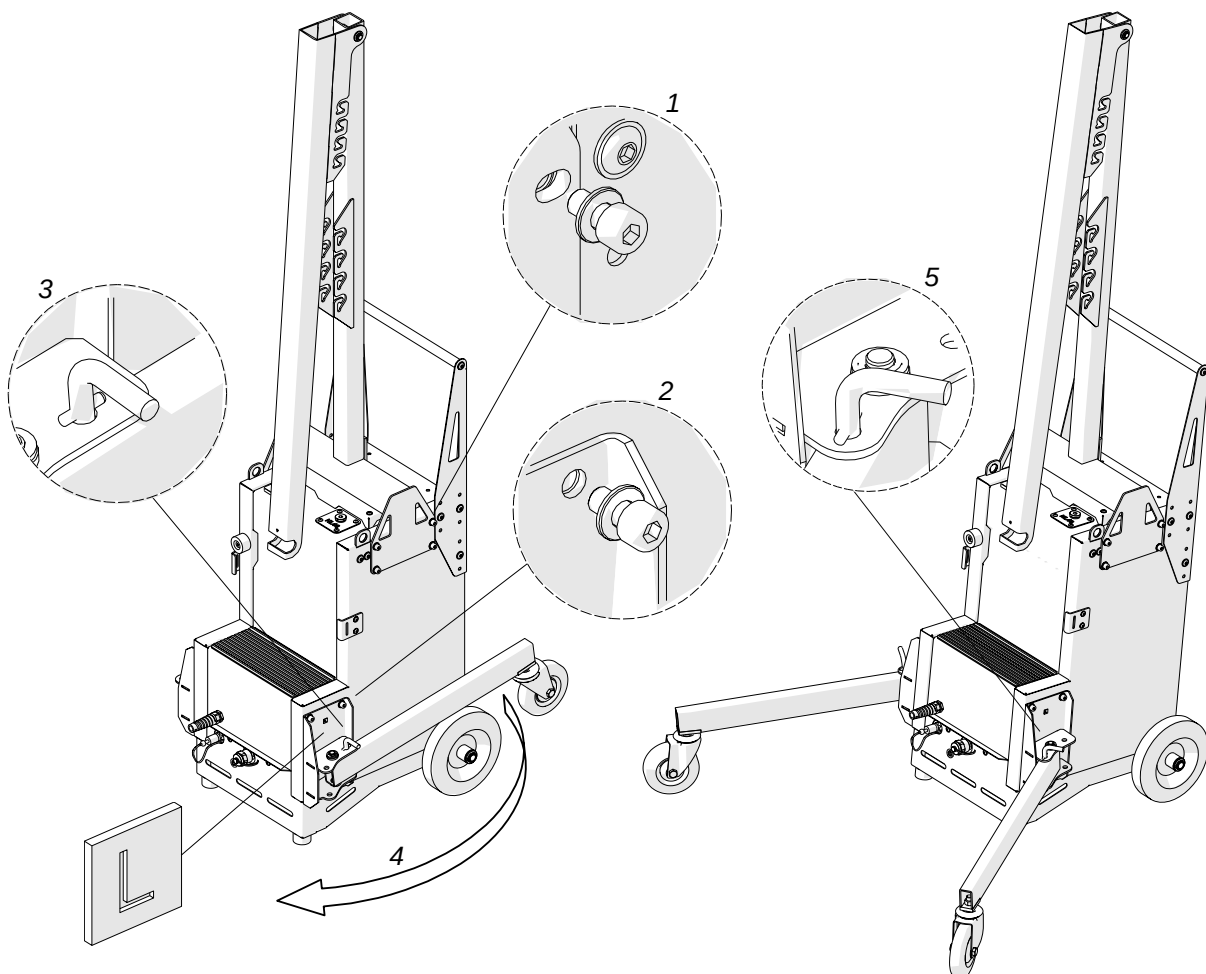

Fig. 13. Mounting the crane base and the supports
To mount the crane, screw the crane base into top holes on both power pack sides with eight M8x16 screws and 8.5 mm washers (1, Fig. 13) using the 6 mm hex wrench. Place the locking pins into the supports in position shown in detail 2 and use next eight M8x16 screws and 8.5 mm washers (3) to screw the supports into lower holes of the power pack. Then, remove the pins, slightly tilt the power pack backwards, and rotate the supports according to the arrow direction 4 to rest the power pack on the support wheels. Lock the supports in this position by placing the pins in location 5.